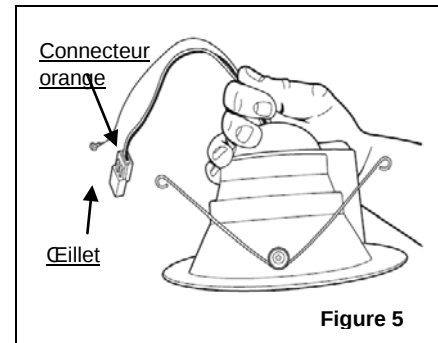

Figure 5
**REMARQUE – NE PAS LAISSER LE MODULE PENDRE DANS LE VIDE AVEC LE CONNECTEUR ORANGE (Figure 5).**